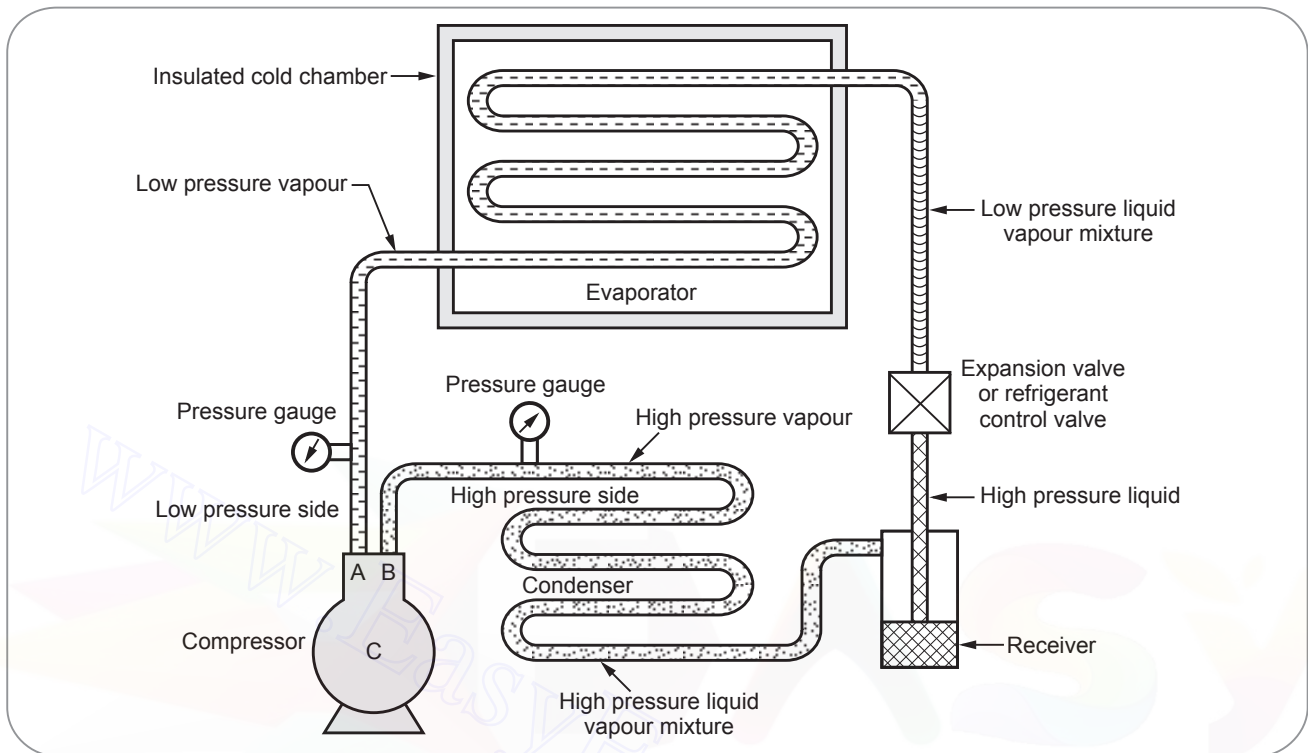

Fig. 5.1 Simple VCC
- Fig. 5.1 shows the vapour compression system.